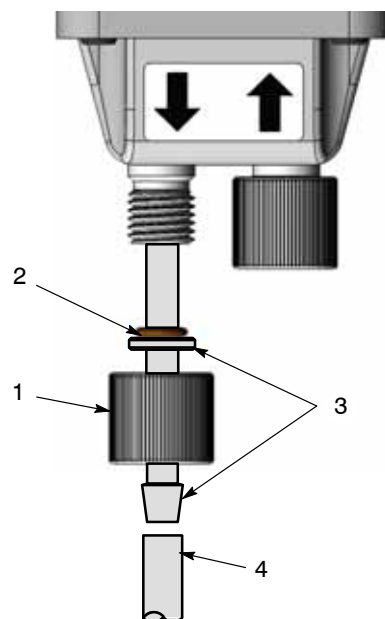

Figure 5 Flexible Tubing Connection to Pump
1. See Figure 5. Remove the rear (outlet) retaining nut (1) and O-ring (2) from the pump.
2. Install the O-ring (3) onto the tubing adapter (3), until it is up against the adapter flange.
5. Push the flexible powder tubing (4) over the barbed end of the adapter.